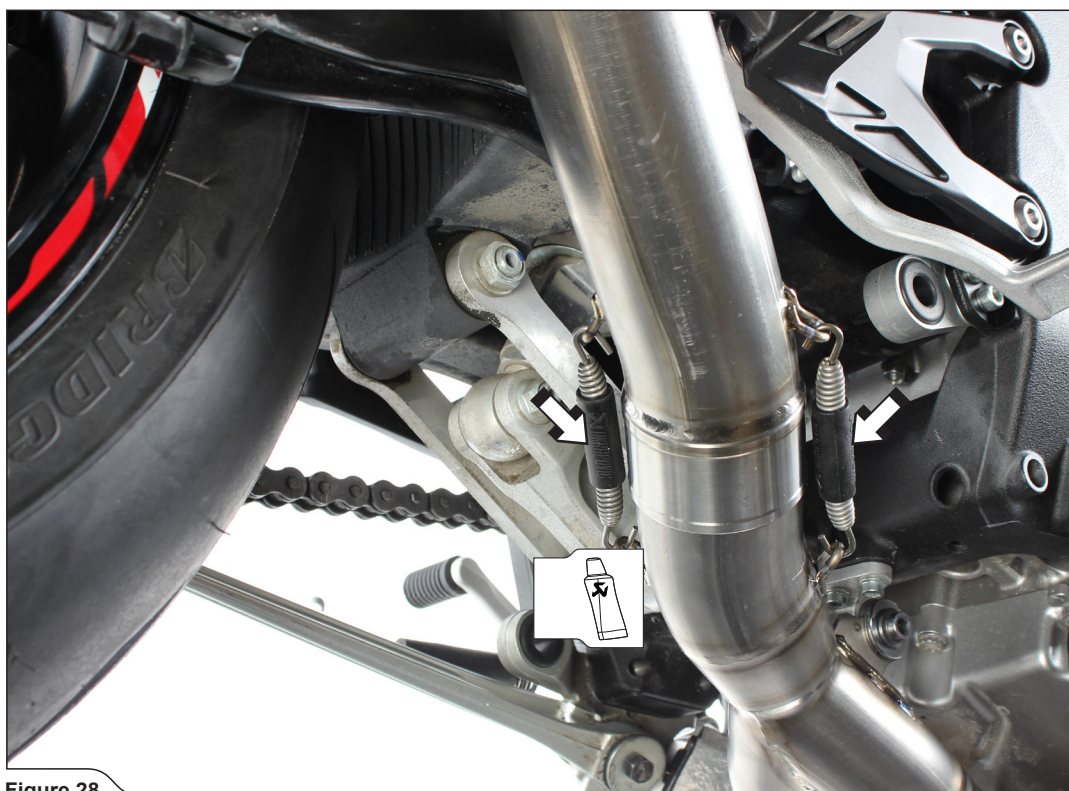

Figure 28
5. Slide the muffler onto the collector, attach the springs and tighten the muffler's bracket, using bolt, washers and nut from Akrapovič installation kit (**Figure 28, 29**).